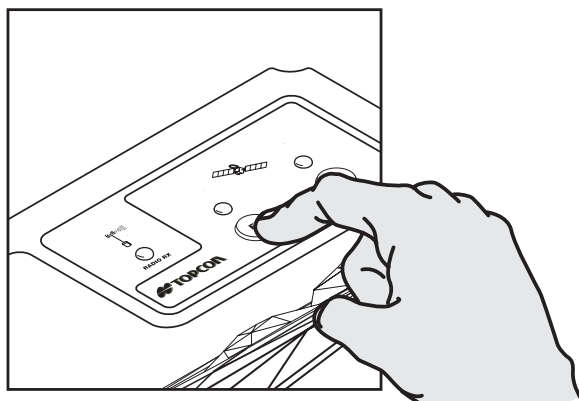

Figure 10-40. Hold FN Key While Turning PWR On to Clear NVRAM
2. Press and hold the **Main FN** key for a single box or the **AUX** key for a dual box (Figure 10-40 on page 10-36).